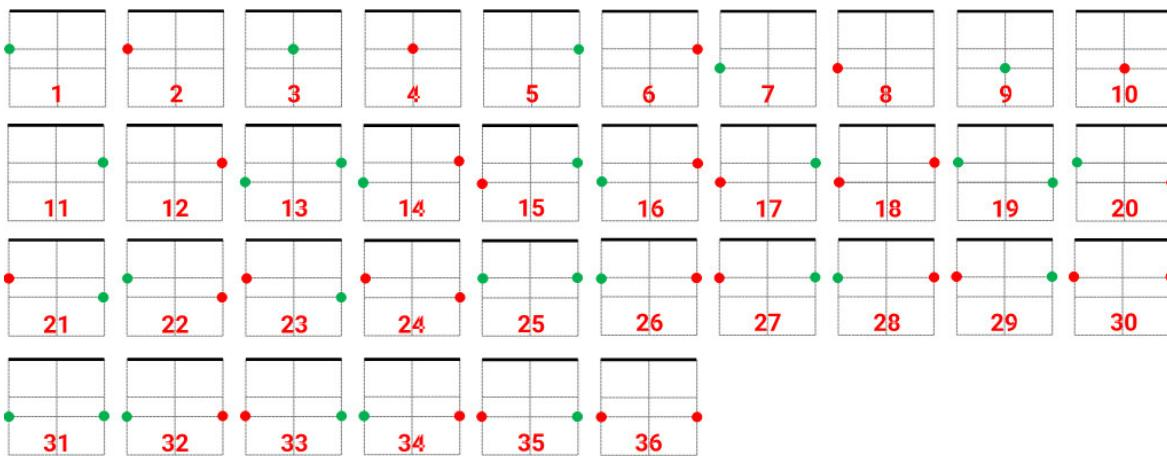

Figure 11. 36 cards with position of traffic signs within a section
3. Get 36 cards as on the figure 11 and remove the card 9 or 10 from the set depending on the colour of the sign chosen on the previous step: if the green sign was chosen, remove